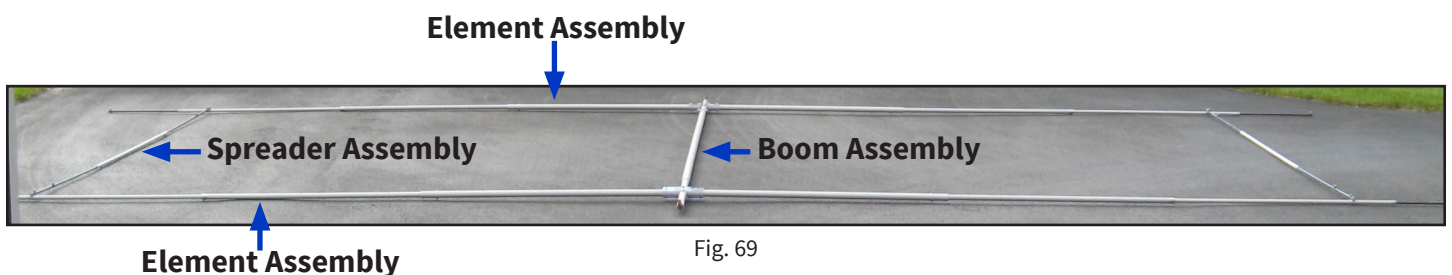

Fig. 69
- Repeat the previous two (2) steps and attach the remaining Spreader Assembly to the Elements of the other side of the antenna as shown in Fig. 69.
**Note:** The following steps will result in the RF Wire Assemblies being attached to the completed antenna support structure of Fig. 69.